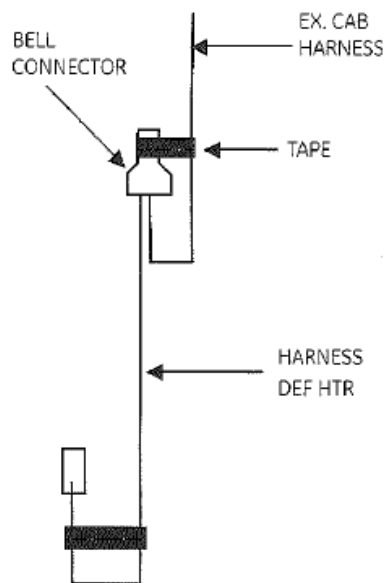

Figure 3
28. Pull Bell Connector up to remove all slack and secure to upper portion of cut wire with black electrical tape (see Figure 3).